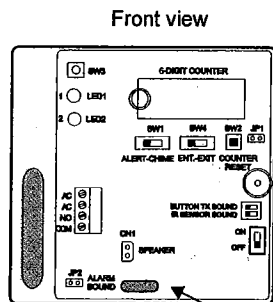
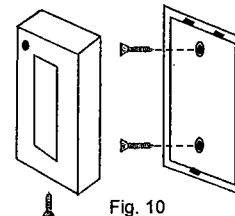

Fig. 8
Fig. 10
2. Locate the terminals labeled AC on the main board (refer to Fig. 8).
3. Using the 6-ft power cord with in-line switch, connect the pre-stripped wires to the 12V AC 20VA transformer terminals (refer to Fig. 10). Strip the insulation on the opposite ends of the wires back approximately 1/4inch, and insert into transceiver terminals labeled 12V AC input (Refer to Fig. 8.).
2. Align the receiver housing and secure the BOTTOM mounting screw firmly in place (Refer to Fig. 8).
3. Remove the screw from the bottom of the transmitter and separate the front cover (refer to Fig. 10).
5. Replace the front cover and secure it using the screw provided (refer to Fig.10).